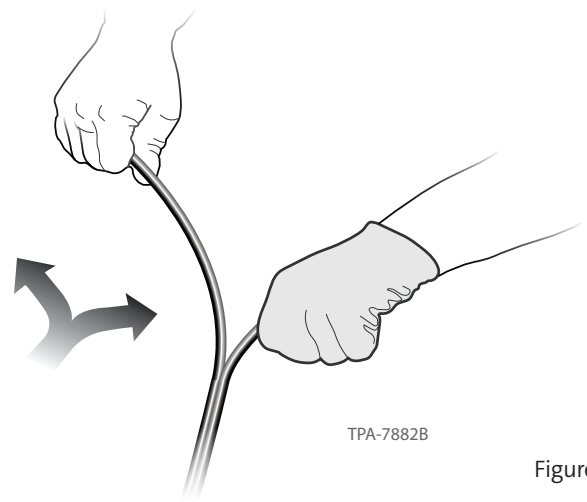

Figure 9
Step 2: After the snip is complete, grab each half of the cable sheath securely and pull to separate sheath along the length of cable (Figure 9). It is best to pull each half at a slight angle relative to the cable direction as opposed to bending each half over approximately 90 degrees to the cable and then pulling.